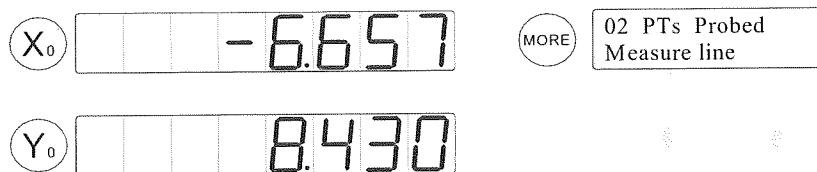

Figure 2-64 Screw Measure
- 6) Move the stage to place the crosshairs over the next point of the line L1 of Screw and press the  key. The position of the targeted point will be shown as in figure 2-64.